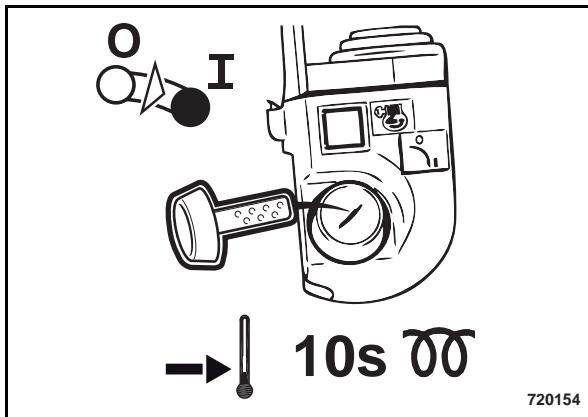

Fig. 33
- Switch on the ignition (Fig. 33).